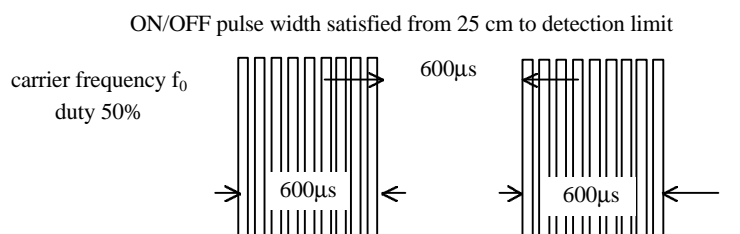

Fig 1. Burst Wave
(1) Measuring placeIndoor without extreme reflection of light.
(2) Ambient light source... Detecting surface illumination shall be 200±50Lux under ordinary hite fluorescence lamp of no high frequency lighting.
(3) Standard transmitter ...Burst wave indicated in Fig 1. of standard transmitter